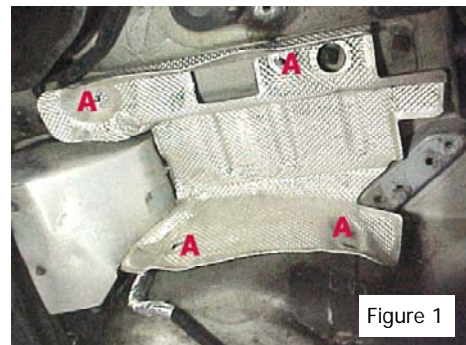

Figure 1
Step 3: Remove the heat-shield above the rear muffler area, held on by 4 10mm nuts at points A in Figure 1.